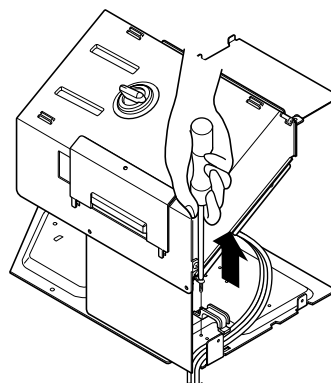

Figure 17
5. Separate the power cord from the control box. (See Figure 17)